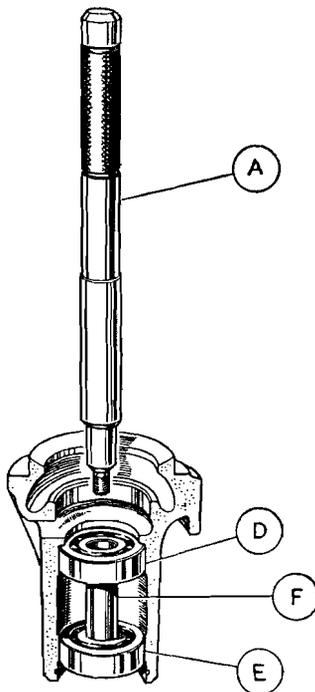

Fig. B.5
Insert the driver (A) (Fig. B.5) into the rear bearing (D) and tap it downwards until the front bearing (E) and the distance piece (F) are released.